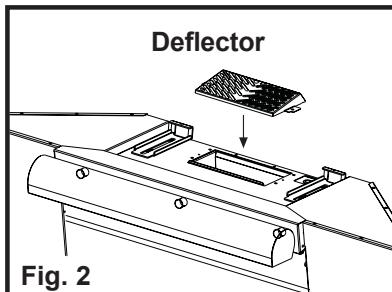

Fig. 2
- Fix the deflector using 2 screws Ø 3.5x9.5 mm. **Fig. 2**.